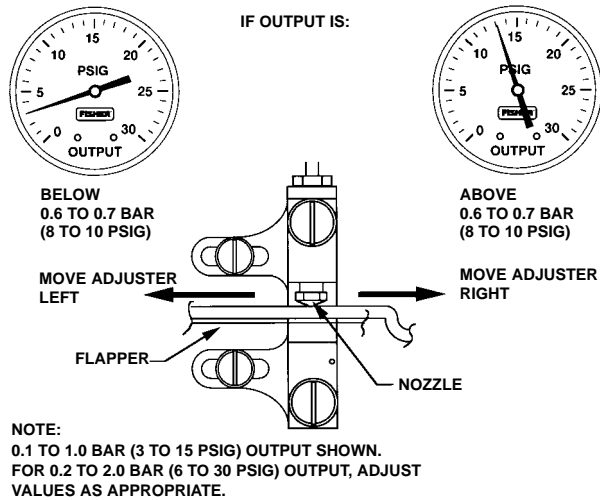

Figure 8. Direct-Acting Controller Span Adjustment — Proportional-Only Controllers
- If the output is not between 0.6 and 0.7 bar (8 and 10 psig), adjust the controller span by loosening one of the two adjusting screws (key 43) and move the calibration adjuster (key 41) a small distance as indicated in figure 8.